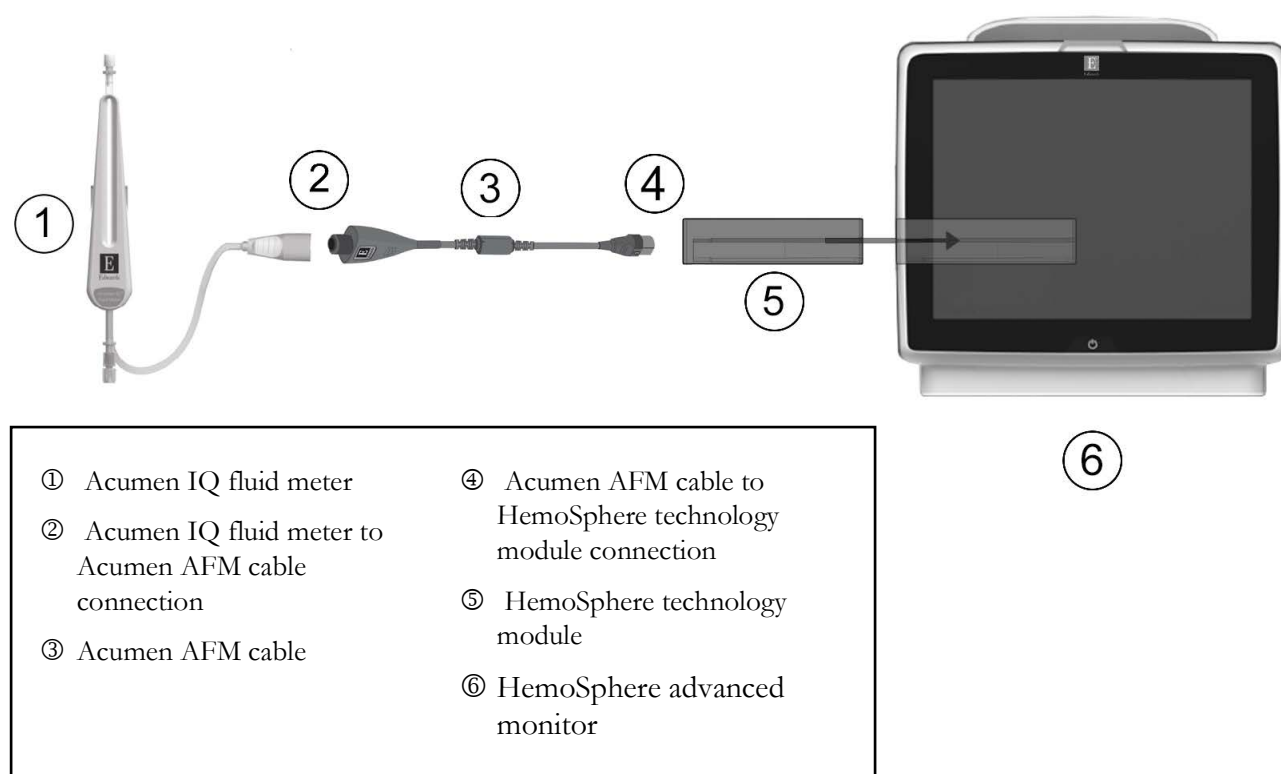

Figure 14-15 Acumen IQ fluid meter and Acumen AFM cable connection overview
- 4 Connect the Acumen IQ fluid meter to the end of the Acumen AFM cable indicated by ② in Figure 14-15.